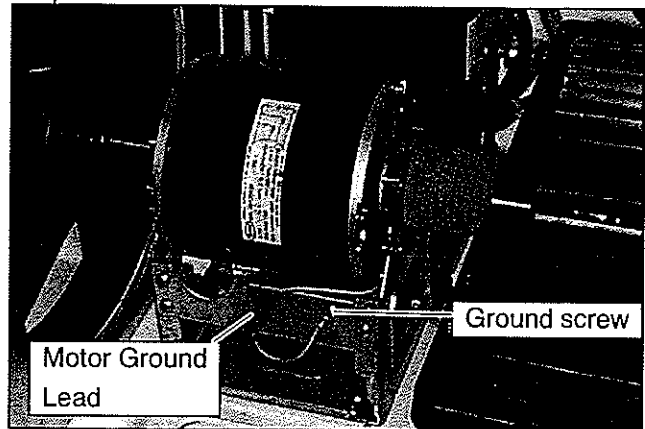

Figure 3-19 Motor Assembly
- f. Remove 1 screw securing the motor ground lead to the motor bracket assembly. (See Figure 3-19)